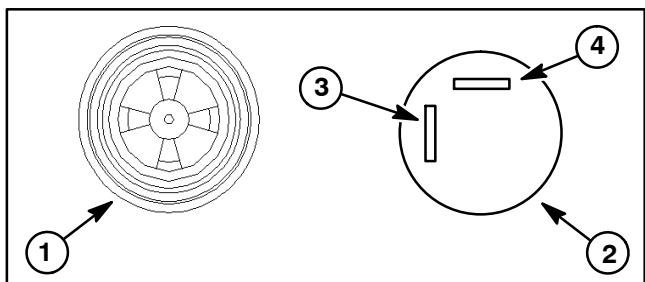

Figure 21
3. Disconnect wire harness connector from alarm. Correctly connect 12VDC source to the terminals (Fig. 21). Alarm should sound.